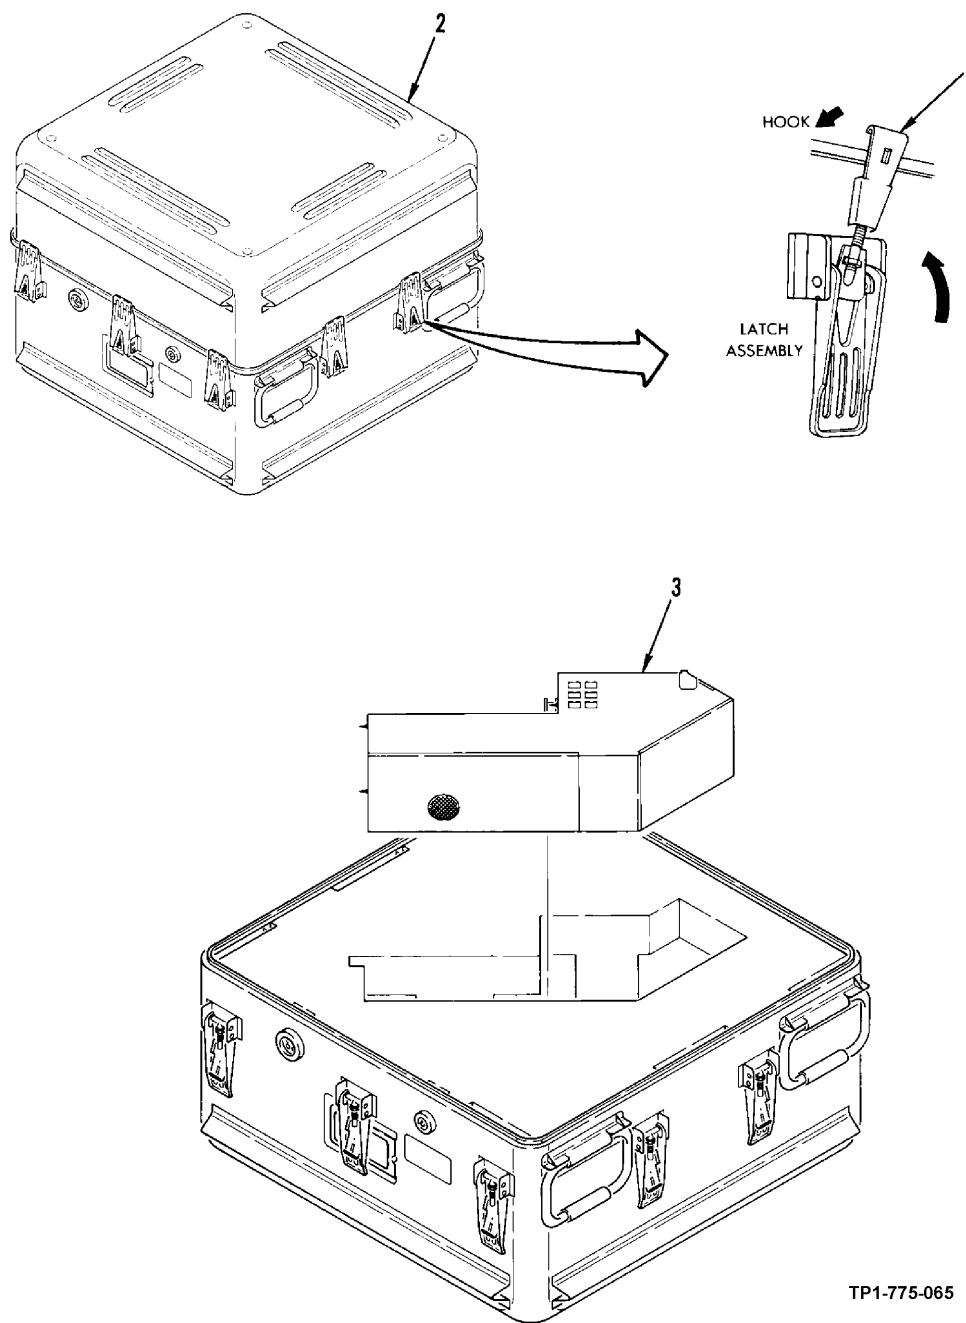

Figure 6-3. IVD Electronics Assembly Installation into Shipping and Storage Container
- a. Open container latches (1, figure 6-3).
- b. Remove container lid (2) and set aside in a clean dry area.
- c. Carefully lower IVD electronics assembly (3) into container